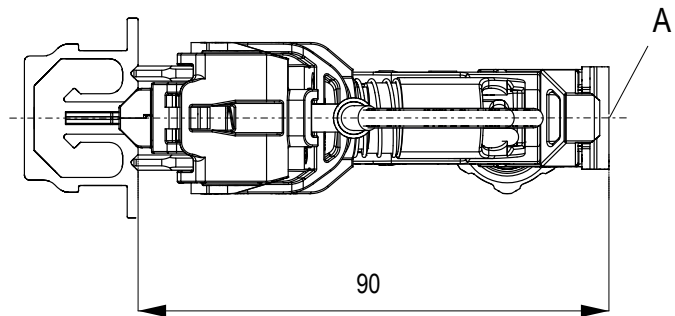

Fig. 90: Collector mounting dimension: From towing device to bottom edge of rail
→ Align the collector, including the towing device (1) toward the data rail (see Fig. 90).
It must be ensured that the center axis (A) of the data rail is mounted exactly on the center axis of the collector and that the specified mounting distance between the towing device and data rails is maintained (see layout plan and Fig. 90).